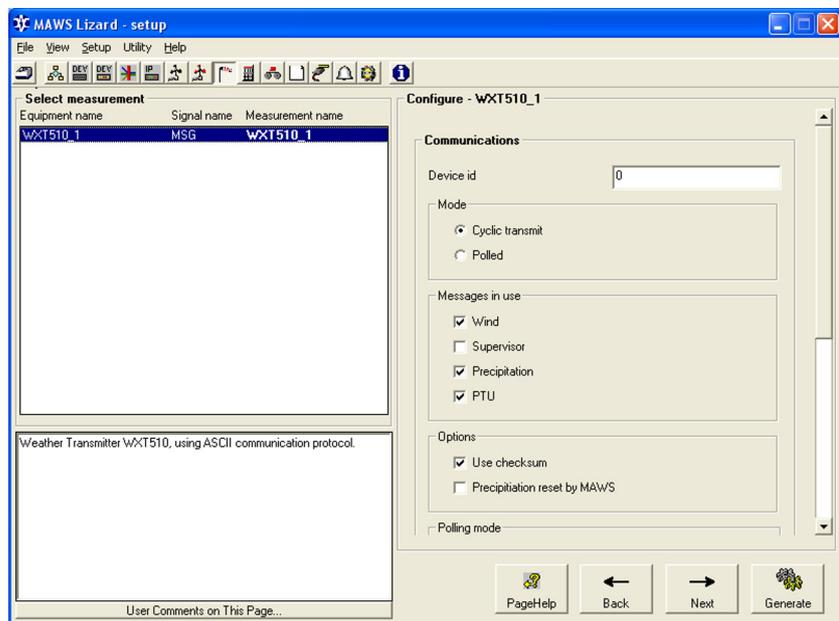

Figure 25 Measurements View: Configuring Weather Transmitter Communications Options
5. Proceed to the **Measurements** view; see Figure 25 on page 63.